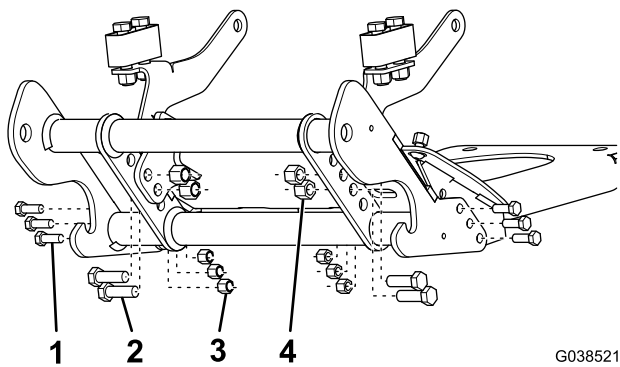

Figure 4
13. Mount the pushbeam to the plow skid plate using 4 short 1/2-inch bolts, 4 locknuts (1/2 inch), 6 bolts (3/8 x 1 inch), and 6 locknuts (3/8 inch) as shown in Figure 4.